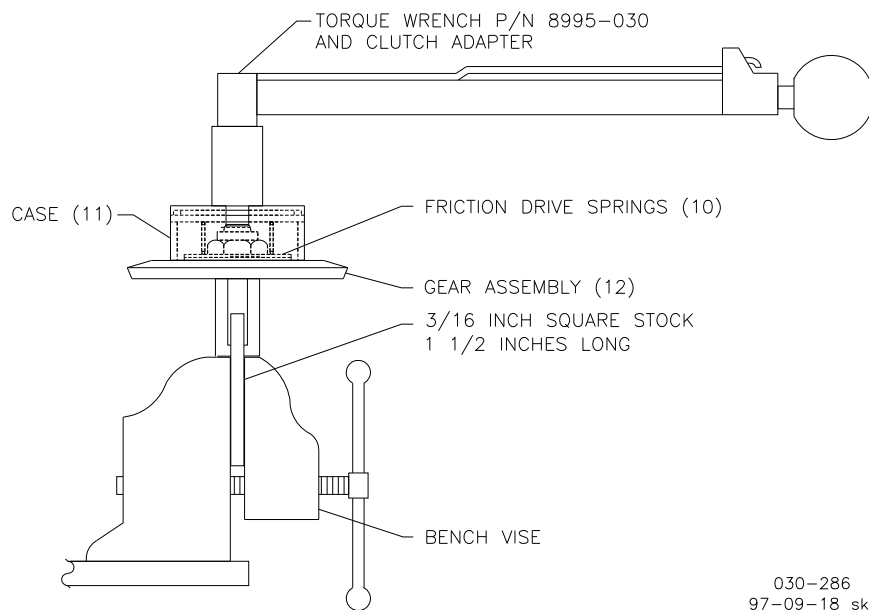

Figure 3-1. Method of Holding Gear While Removing Screw (9) and also for Setting Torque
7. Remove cover (7) and spring (8).
8. Refer to Figure 3-1 for the method of removing friction adjusting screw (9). Secure bar stock in vise. Place gear (12) on the piece of bar. Use a 7/16 inch wrench to remove screw (9).
9. Remove case (11) and three springs (10).
10. Use a small pin punch and mallet of appropriate size to gently tap roll pin (16) from gear (17) and knob (19).
11. Remove knob (19) from the cover. Be careful not to drop gear (17) as the shaft is removed.
(Refer to Figures 3-1 and 4-1.)
1. Put O-ring (20) on the shaft of knob (19) and insert the shaft through dial plate (21) and wave washer (22). Place this assembly in the cover.
2. Place gear (17) on shaft (19) from inside the cover. Align the hole in the shaft and gear, and start roll pin (16).
3. Use a 1/8 inch pin punch and gently tap roll pin (16) into the gear and shaft. Be sure the shaft turns freely.
4. Turn speed adjusting screw (15) into bracket (13).
5. Lubricate the top of gear (12) with a few drops of oil and place case (11) and friction drive springs (10) on gear (12). Turn screw (9) into gear (12), but don't tighten at this time.
6. Refer to Figure 3-1. Use 3/16 inch square stock in a vise to hold the gear and clutch. Tighten screw (9) to provide from 12 to 15 lb-in (1.4 to 1.7 N·m) torque between friction drive case (11) and gear (12). Check the clutch torque with a torque wrench and adapter (part number 8995-030).